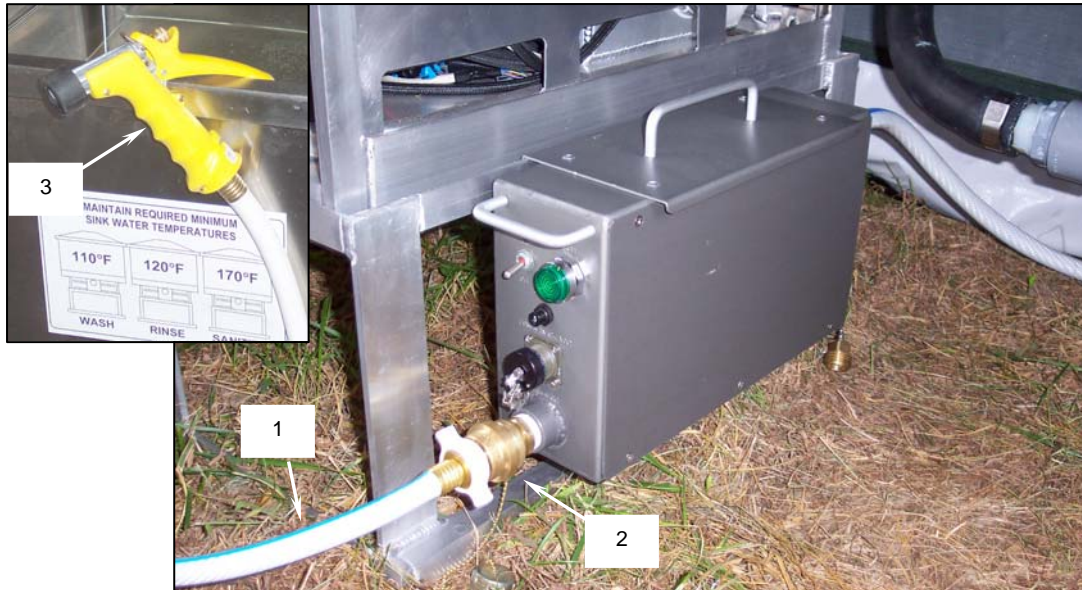

Figure 18. Sink Fill Hose Installation.
- e. Connect the 15-ft sink fill hose (**Figure 18, Item 1**) to the vacuum breaker (**Figure 18, Item 2**) at the water outlet at the front of the sink fill pump assembly.
- f. Connect the water nozzle (**Figure 18, Item 3**) to the other end of the 15-ft sink fill hose. Ensure that the water nozzle is secured off the ground.